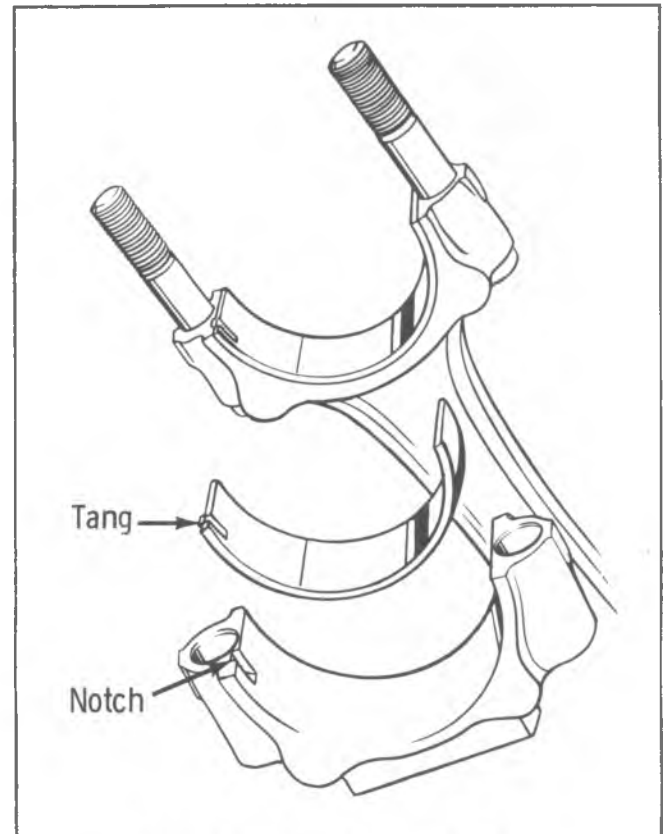

Fig. E-57—Bearing Tang and Notch
5. Clean oil from journal bearing cap, connecting rod and outer and inner surface of bearing inserts. Position insert so that tang is properly aligned with notch in rod and cap. (Fig. E-57)